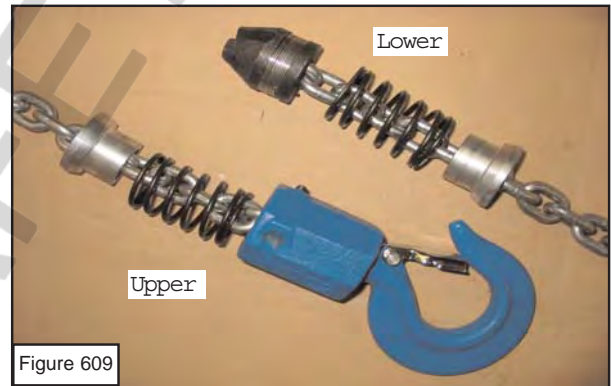

Figure 609
- 3) The assembly of the spring loaded stopper (Figure 609). Aluminum stopper should have the smaller diameter section facing the spring.